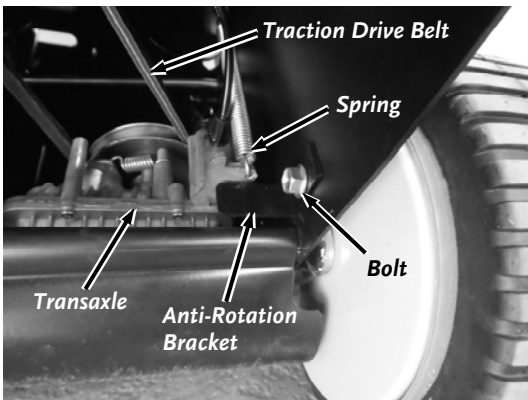

Figure 34
2. Remove the Bolt securing the Anti-Rotation Bracket and remove the Bracket (**Figure 34**).